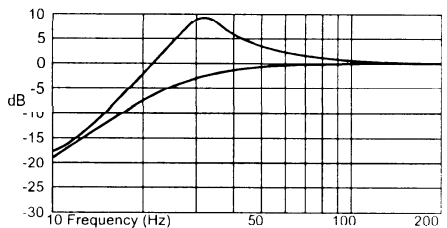

FIG. 2 VARIABLE "Q"
**The Boost control** adjusts the amount of level applied at the set frequency. This is adjustable from flat (0dB) to +9 dB. (See figure 2)